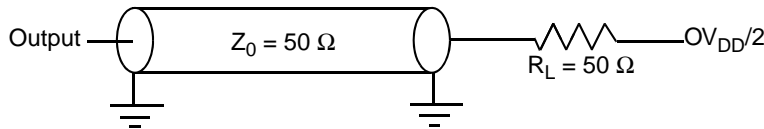

Figure 22. Local Bus C Test Load
- All outputs are measured from the midpoint voltage of the falling/rising edge of t_{TCLK} to the midpoint of the signal in question. The output timings are measured at the pins. All output timings assume a purely resistive 50- Ω load (see Figure 22). Time-of-flight delays must be added for trace lengths, vias, and connectors in the system.
- The symbols used for timing specifications herein follow the pattern of $t_{(\text{first two letters of functional block})(\text{signal})(\text{state})}$ (reference)(state) for inputs and $t_{(\text{first two letters of functional block})(\text{reference})(\text{state})(\text{signal})(\text{state})}$ for outputs. For example, t_{JTDVKH} symbolizes JTAG device timing (JT) with respect to the time data input signals (D) reaching the valid state (V) relative to the t_{JTG} clock reference (K) going to the high (H) state or setup time. Also, t_{JTDXKH} symbolizes JTAG timing (JT) with respect to the time data input signals (D) went invalid (X) relative to the t_{JTG} clock reference (K) going to the high (H) state. Note that, in general, the clock reference symbol representation is based on three letters representing the clock of a particular functional. For rise and fall times, the latter convention is used with the appropriate letter: R (rise) or F (fall).